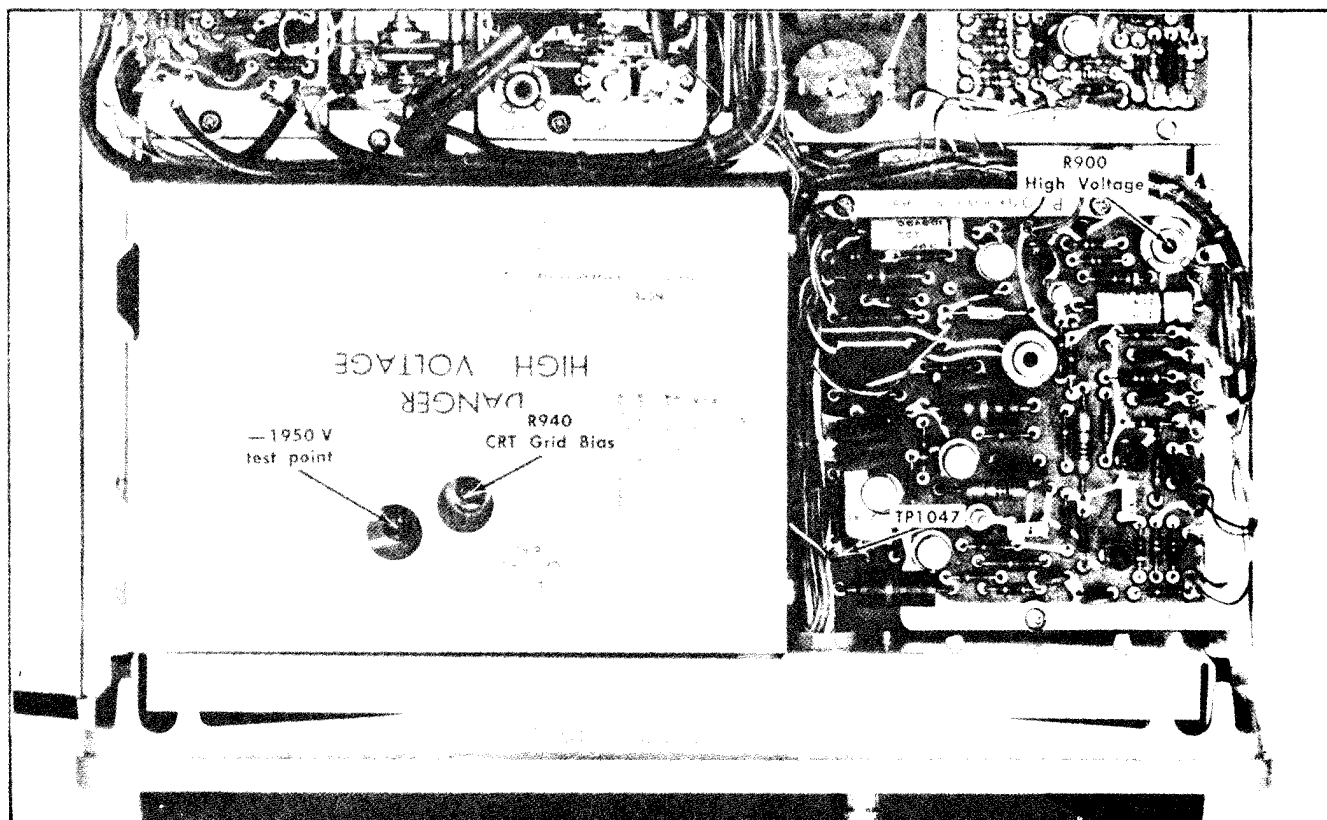

Fig. 6-6. Location of high-voltage adjustments and test points (bottom).
a. Connect the DC voltmeter (use the precision 2 kV divider) from the -1950 V test point (see Fig. 6-6) to chassis ground.
c. ADJUST-High-Voltage adjustment, R900 (see Fig. 6-6), for -1950 volts.
a. Connect the precision DC voltmeter from TP1047 (Z Axis Amplifier board; see Fig. 6-6) to chassis ground.
d. ADJUST-CRT Grid Bias adjustment, R940 (see Fig. 6-6), so the spot just disappears (it may be necessary to turn the horizontal POSITION control clockwise to bring the spot onto the viewing area).